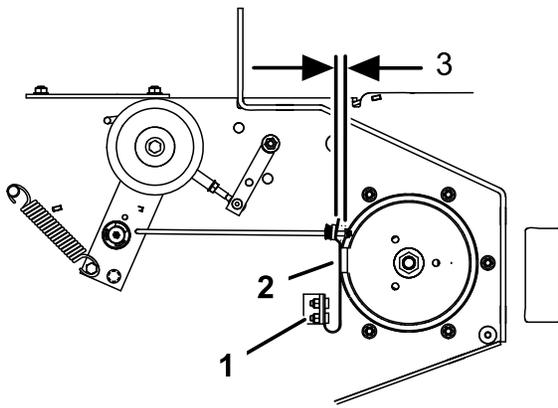

Figure 59
3. If necessary, adjust the spring mounting bolts so that the blade brake pad rubs against both sides of the pulley groove (Figure 59).
4. Adjust the nut at the end of the blade brake rod until there is 3 mm -5 mm (1/8-3/16 inch) between the nut and spacer (Figure 59).